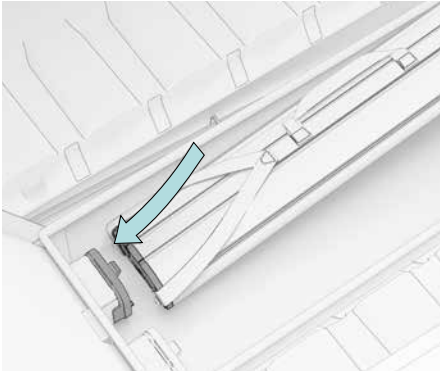

Fig. 15
1. Carefully place the back side of the rechargeable battery on the plug in the battery housing (Fig. 15).